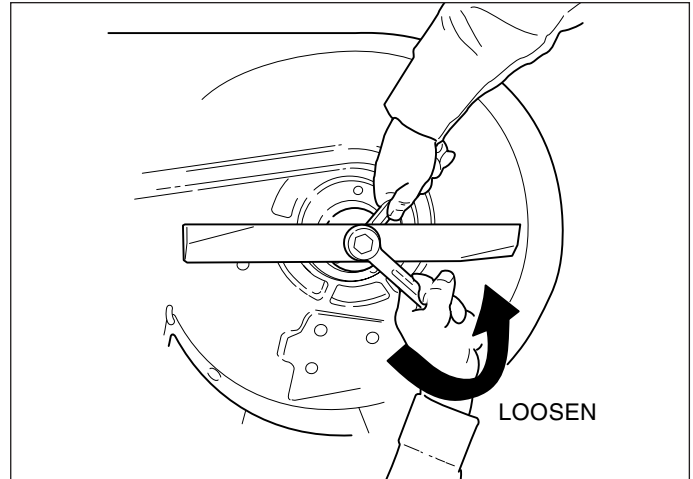

Figure 20. Removing the Blade
2. To remove blade for sharpening, use a 1" wrench on the flats of the spindle shaft while removing the blade mounting bolt with a 15/16" wrench (Figure 20).